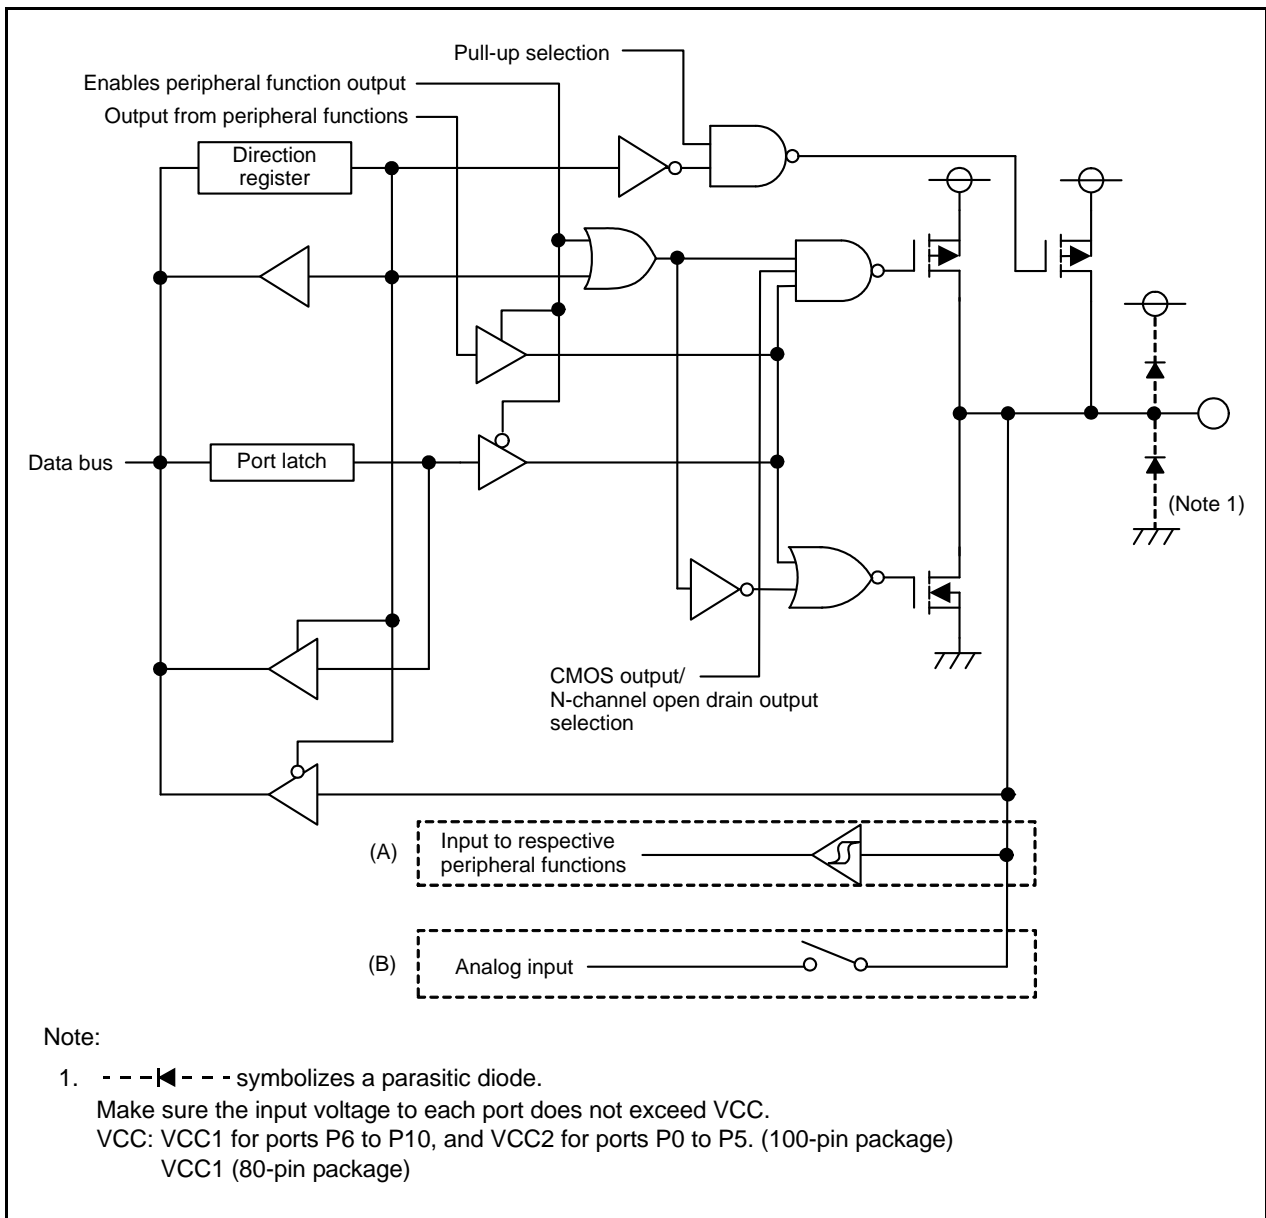

Figure 13.6 I/O Ports (CMOS Output/N-channel Open Drain Output Selection)
Peripheral function input (A) in Figure 13.6	Analog input (B) in Figure 13.6